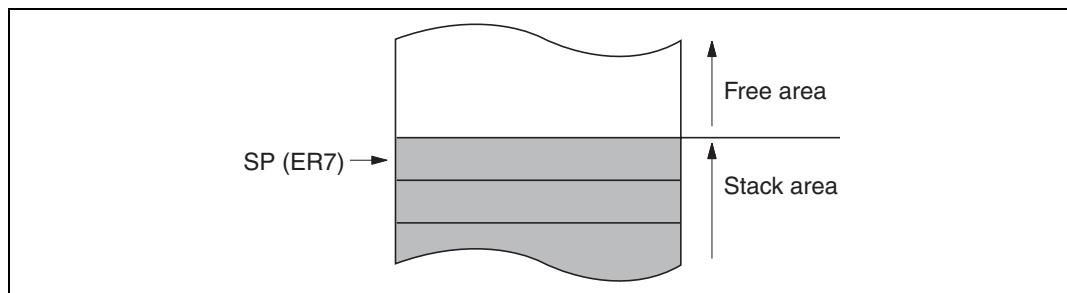

Figure 2.5 Stack
General register ER7 has the function of stack pointer (SP) in addition to its general-register function, and is used implicitly in exception handling and subroutine calls. Figure 2.5 shows the stack.